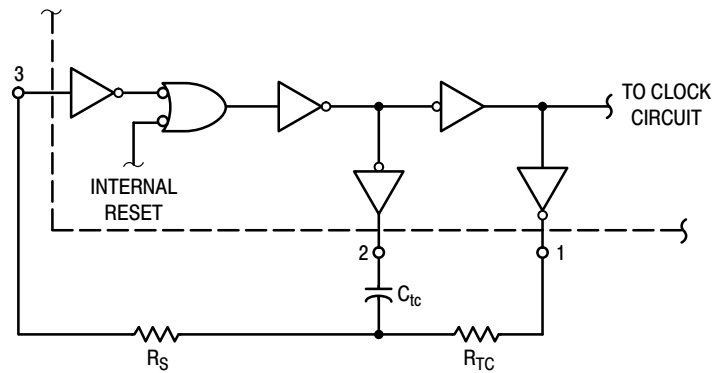

Figure 3. Oscillator Circuit Using RC Configuration
5. When using the on chip oscillator the total supply current (in μ Adc) becomes: $I_T = I_D + 2 C_{tc} V_{DD} f \times 10^{-3}$ where I_D is in μ A, C_{tc} is in pF, V_{DD} in Volts DC, and f in kHz. (see Fig. 3) Dissipation during power-on with automatic reset enabled is typically 50 μ A @ $V_{DD} = 10$ Vdc.
The RC oscillator as shown in Figure 3 will oscillate with a frequency determined by the external RC network i.e.,